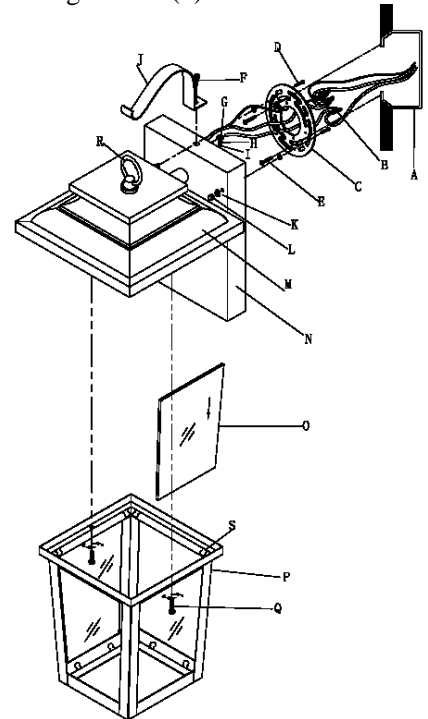

Fig. 2
## CONNECTION THE WIRES (Fig. 2)
6. Connect the electrical wires as shown in (Fig. 2), making sure that all wire connectors (B) are secured. If your outlet has a ground wire (green or bare copper), connect the fixture ground wire to it. Otherwise, connect the fixture ground wire directly to the mounting plate using the green screw provided.